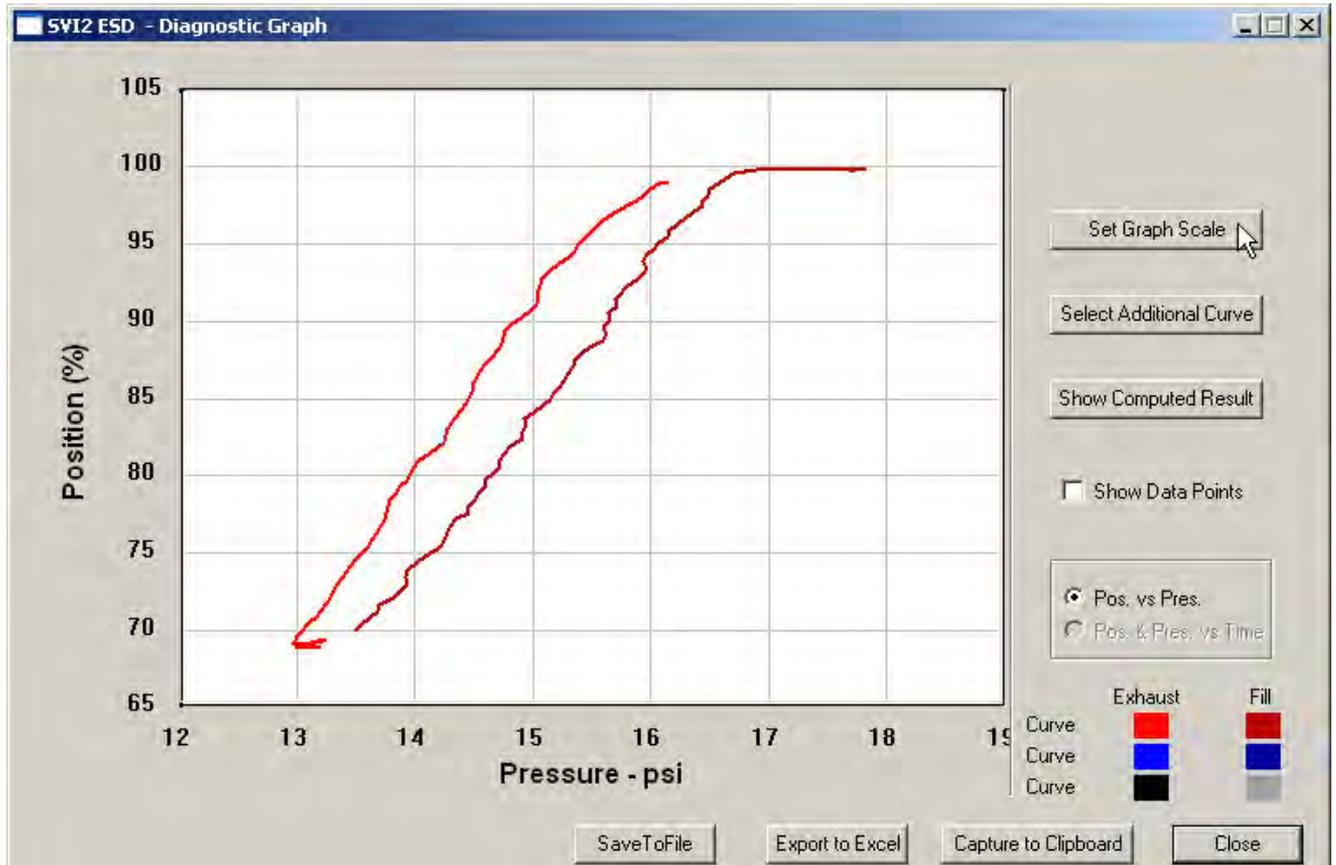

Figure 207 Selecting Set Graph Scale
1. Select **Set Graph Scale** (Figure 207).